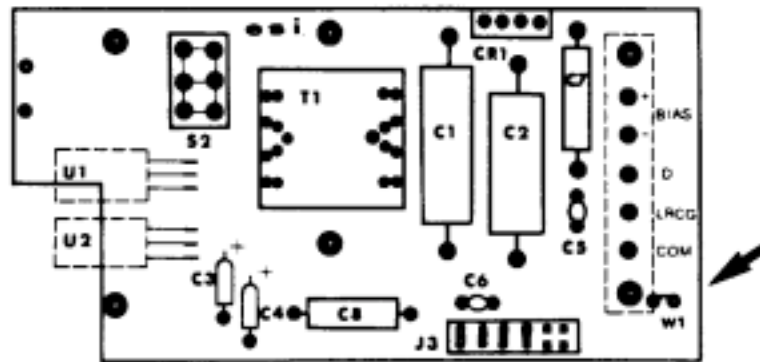

Figure 2-10. Power Supply Circuit Assembly
4. Remove jumper wire W1 from this assembly (see Figure 2-10).